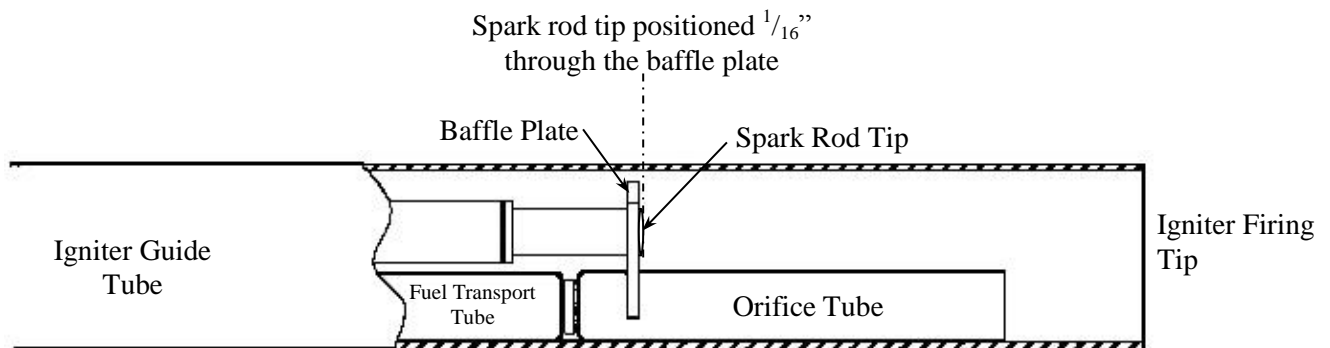

Figure 4-1 Igniter Tip Arrangement
5. Before inserting the guide tube into the mount tube, inspect the primary combustion region for cleanliness and check the position of the spark rod tip. Figure 4-1 illustrates the correct position of the spark rod tip.